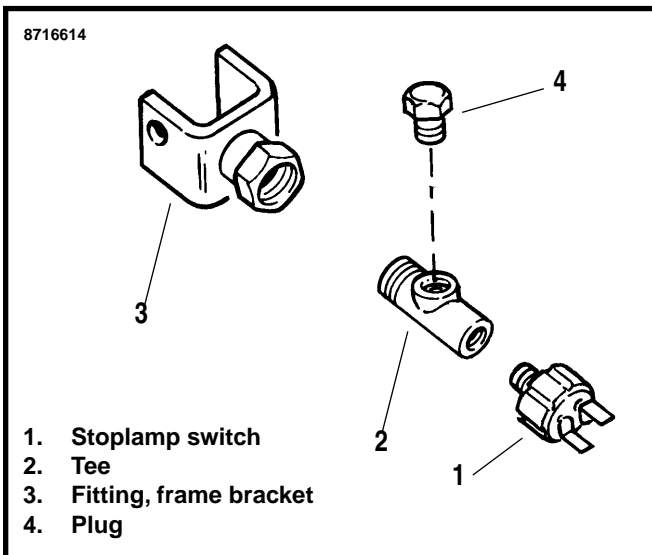

Figure 10. Sidecar Brake Line Connection - 1992 and Later
1. See Figure 10. Remove stoplamp switch (1) from fitting (3) at frame bracket.
2. Coat male threads of tee (2) with Loctite Pipe Sealant with Teflon. Thread tee (2) into fitting (3) and tighten so that right angle opening is vertical.
3. Coat threads of stoplight switch (1) with Loctite Pipe Sealant with Teflon. Thread switch into end of tee (2).
4. If sidecar is not being attached, install plug (4) in the right angle opening.